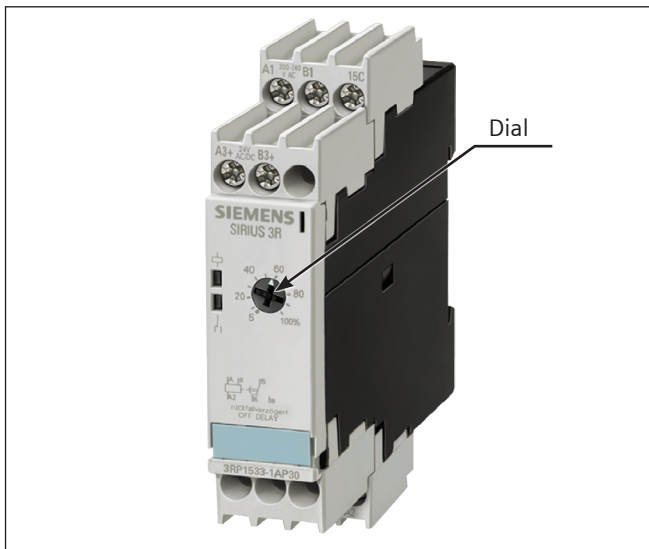

Fig. 3: Timer Adjustment
- Open the door & Set the timer to this measured value by rotating the dial shown in Fig. 3.